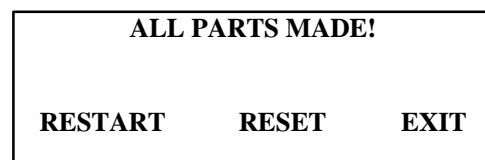

Figure 8
8. When all of the trials are complete, the TSS will display the message “ALL PARTS MADE!” and the green light in the lower right corner of the TSS will turn red. The machine will offer the options of **RESTART**, **RESET**, or **EXIT** the program, and two loud beeps will alert the user. The beeps will be followed by a switch closure from the #1 jack (*“End of operation” prompt*). (Figure 8)